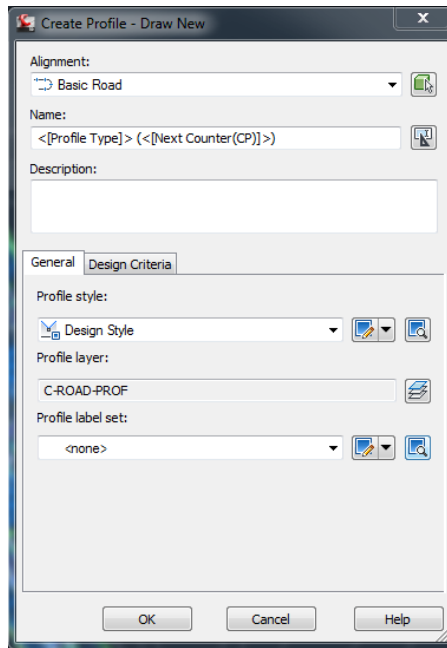

Figure 25: Create Profile from ASCII
4. Confirm the import dialog (see Figure 25).